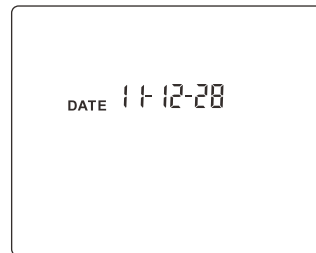

Figure 3
- Press the  key to turn on the unit, after the LCD entire screen displays for 2 seconds will display the year, month and date. As shown in figure 3: